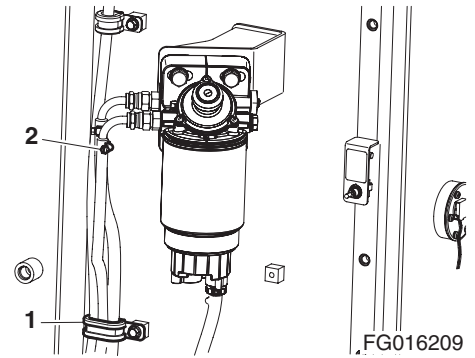

Figure 21
9. Fasten fuel hose clamp (1, Figure 21).